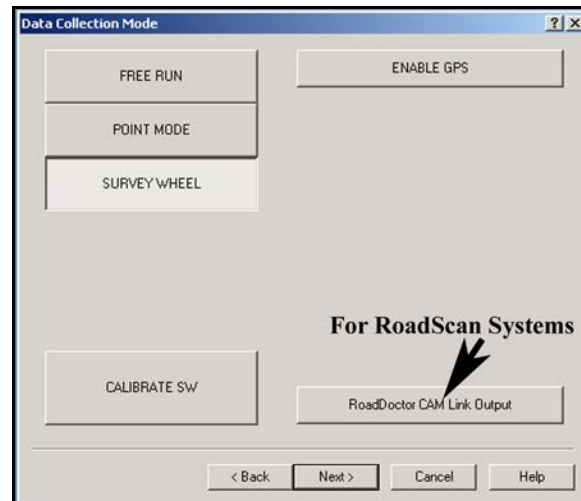

Figure 23: Data Collection Mode.
- All data entry on this screen is optional. If you do not wish to add notes, click Next >. A window will open with the heading Data Collection Mode (Figure 23).